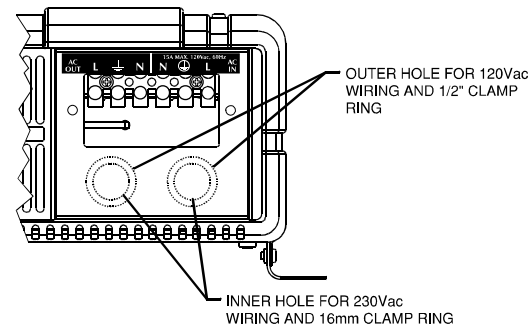

Figure 3. AC wiring terminals (hardwire versions only)
Figure 3 may be a useful reference as it illustrates the AC wiring connection terminals for PROsine models that are AC hardwire configured.
2. Remove the knockouts from the cover of the wiring compartment to create holes for your cable clamps (see Figure 3).